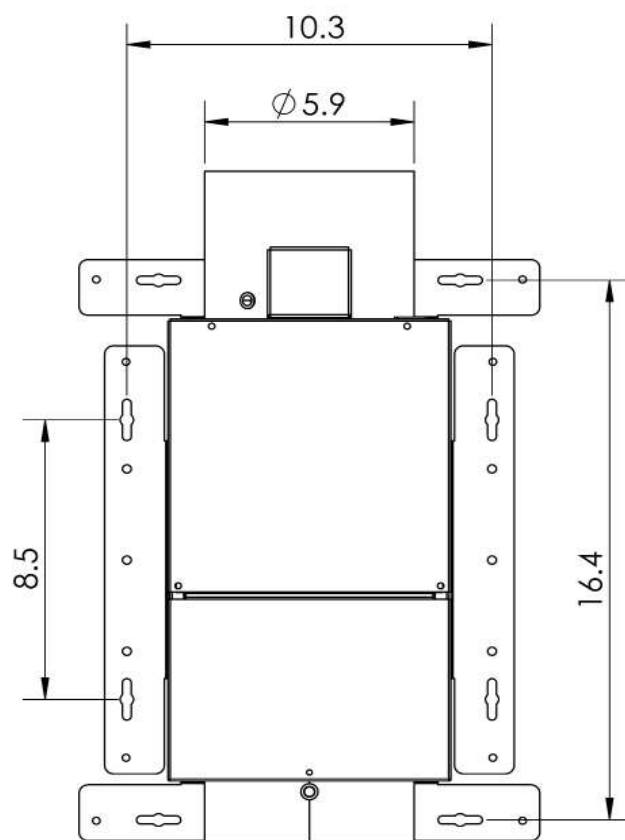

Figure 3: FAPV-L Mounting Dimensions
1. Attach the mounting brackets to the FAPV-L unit in any of the positions shown in Figure 3, using the supplied BM4x8 triangular thread screws. The brackets must either be on opposite sides or opposite ends of the FAPV-L fan unit for secure mounting.
2. **Mount the FAPV-L fan unit securely onto the mounting surface, wall studs, joists, rafters, or trusses using appropriate fasteners. See Figure 3.**